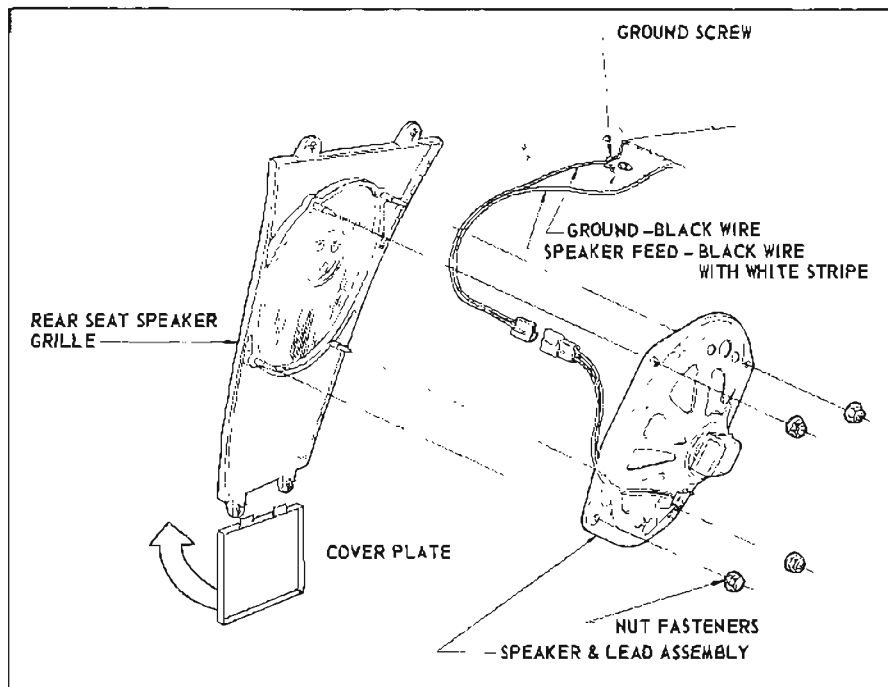

Figure 11-27--Rear Speaker Installation - 4700 Series
1. Remove cover plate (see Figure 11-27) located directly under